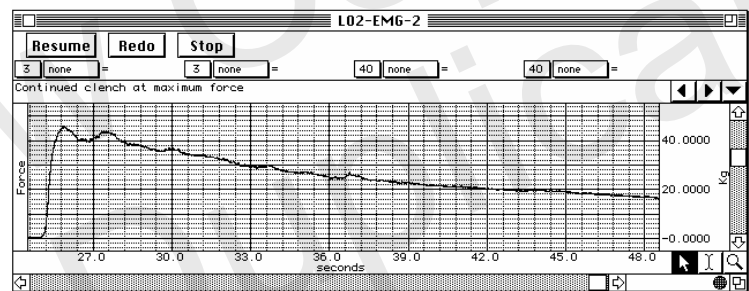

Fig. 2.8 Fatigue
If all went well, your data should look similar to Fig. 2.8.
- If all went well, your data should look similar to Fig. 2.8.